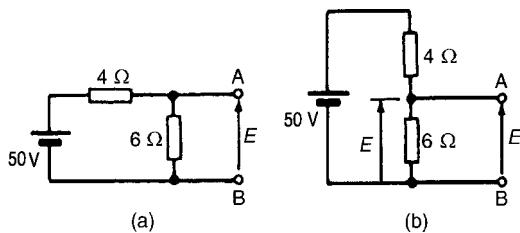

Figure 13.30
- (ii) The open-circuit voltage,  $E$ , across terminals AB in Fig. 13.30(a) is the same as the voltage across
the  $6\Omega$  resistor. The circuit may be redrawn as shown in Fig. 13.30(b)